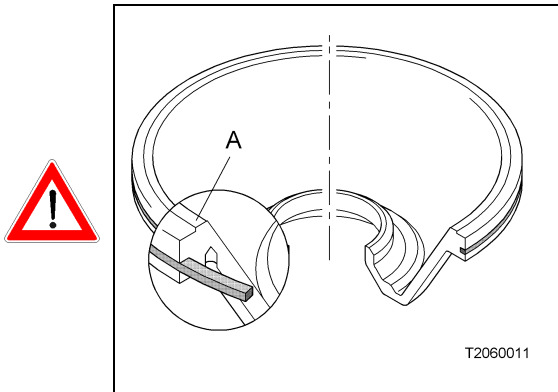

Fig. 183
- the sealing surface A of the sliding piston (Fig. 183) (Sealing surface A as delivered 2 mm high) and